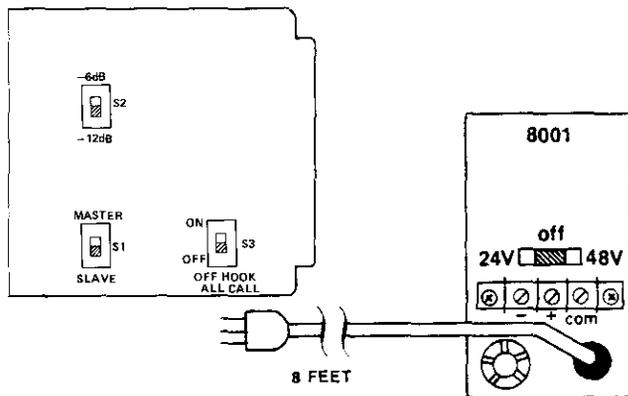

figure 7. Option switch locations
2.16 The only optioning required for the 293 System is the setting of three slide switches on the 9394 module's printed circuit board and the setting of one slide switch on the back of the 8001 Power Supply. Locations of these option switches are shown in figure 7. The 9332 and 9391 modules, 8108 Ringing Generators, and 8007 Power Supply have no options. For our hypothetical 293 System application, set the option switches in accordance with the following checklist (the 9394 modules are located in position 12 of the two mounting shelves):